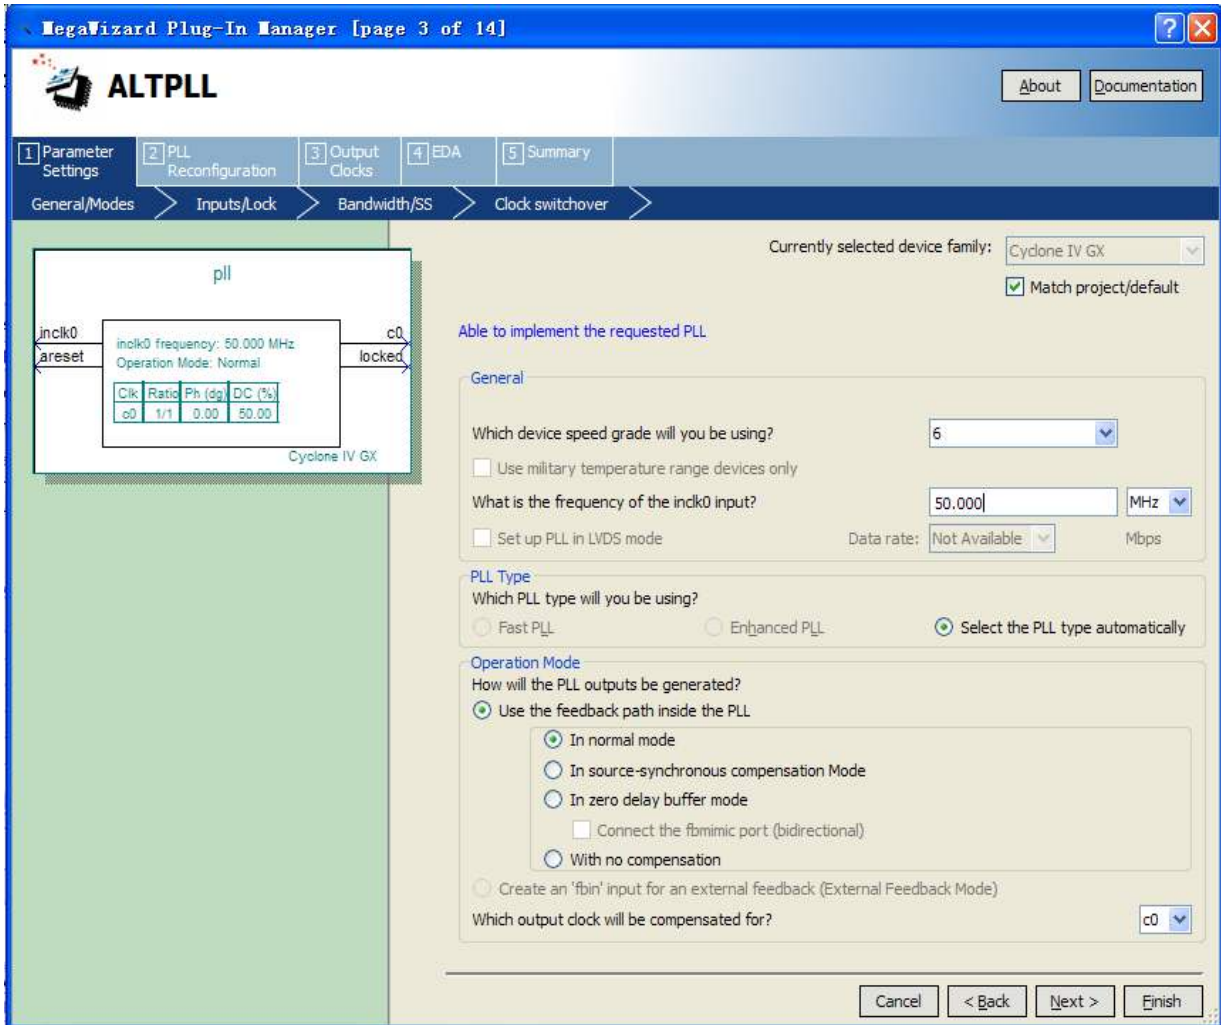

Figure 3-10 MegaWizard Plug-In Manager [page 3 of 14] Selections
5. In the MegaWizard Plug-In Manager [page 3 of 14] window, make the following selections (see Figure 3-10).